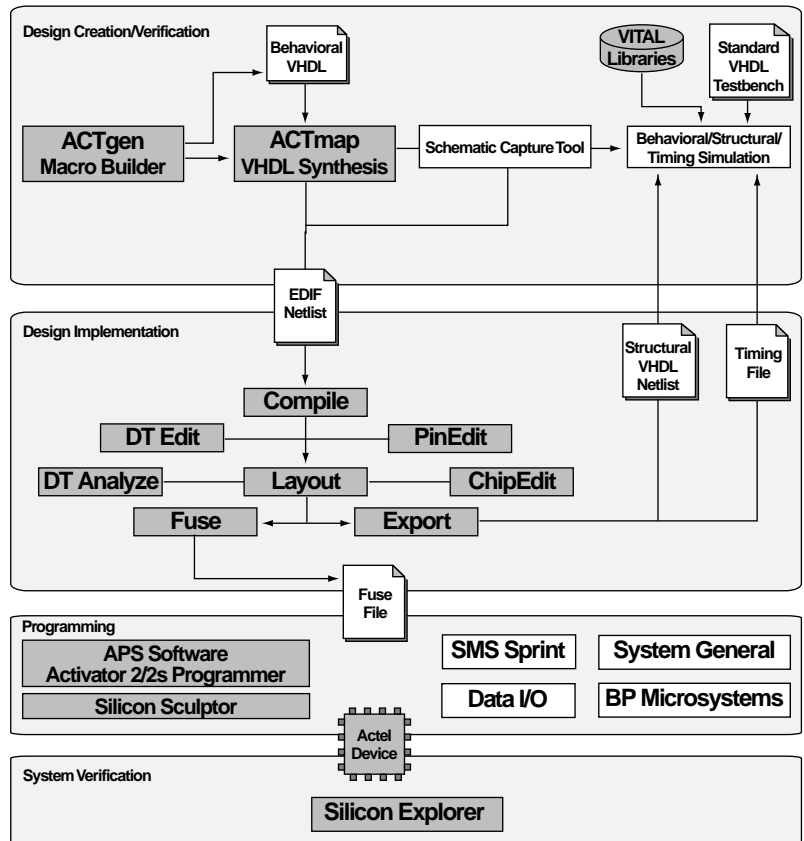

Figure 1-1. ACTmap Design Flow
Figure 1-1 illustrates the design flow for creating an Actel device using the Designer Series, ACTmap, and 3rd party CAE software1.
1. Actel-specific utilities/tools are denoted by the grey boxes in Figure 1-1.